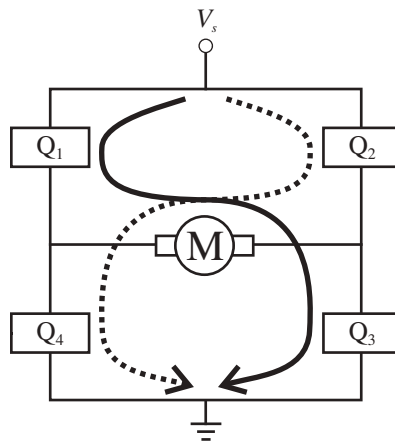
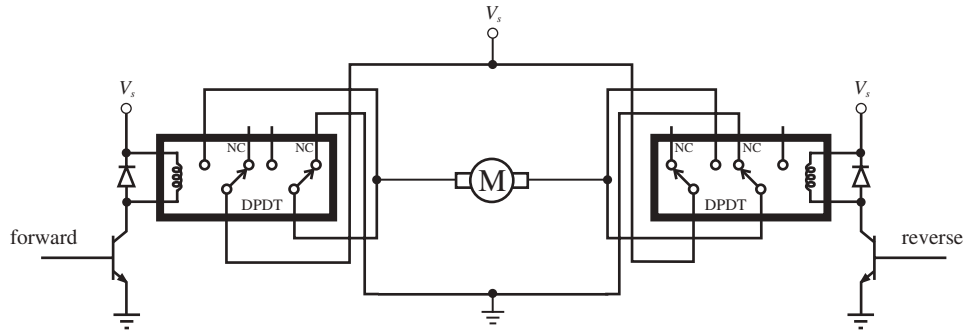

Figure 10.21 H-bridge current-direction control.
Figure 10.23 DPDT relay H-bridge.
To be able to reverse the direction of rotation of a DC motor, the applied voltage polarity across the motor and the resulting current direction must be flipped. This can be done with a circuit called an **H-bridge** illustrated in Figure 10.21. The “H” in the name comes from the configuration of the circuit, where the motor (M) is in the horizontal portion of the “H” and the four switches (Q_1 through Q_4) are in each of the four vertical legs of the “H.” Q_1 through Q_4 can be manual switches, relays, or transistors, and they must be turned on in pairs to send current through the motor in the desired direction. If switches Q_1 and Q_3 are ON and Q_2 and Q_4 are OFF, current flows through the motor from left to right (see the bold curved arrow in the figure), causing the motor to rotate in the forward direction. And if switches Q_2 and Q_4 are ON and Q_1 and Q_3 are OFF, current flows from right to left (see the dashed curved arrow in the figure), causing the motor to rotate in the reverse direction.
transistors, which are switched on with a low signal at the base (see Section 3.4.1). The bottom two transistors are npn transistors, which are switched on with a high signal at the base. To create the forward current in Figure 10.21, set Q_1 low (ON) and Q_3 high (ON), and set Q_2 high (OFF) and Q_4 low (OFF). And to create reverse current, set Q_1 high (OFF) and Q_3 low (OFF), and set Q_2 low (ON) and Q_4 high (ON). The four diodes create flyback protection in both directions (see Section 3.3.1 and Class Discussion Item 10.5). With a transistor H-bridge, PWM speed control (per Section 10.5.3) can be easily implemented by cycling the transistors on and off with the desired duty cycle.
Figure 10.23 shows how an H-bridge can be constructed with relays instead of transistors. Here, two double-pole, double-throw (DPDT) relays are being used. Refer to Section 9.3.1 for an introduction to switch terminology, which also applies to relays. And for more information about how relays work and why they are used, see Section 10.3. An alternative to the DPDT design in Figure 10.23 is to use four SPST relays instead, one for each switch (Q_1 through Q_4) in Figure 10.21, but the two DPDT approach is less expensive and requires less space. In Figure 10.23, the two relays are shown in their nonenergized states, with the pole contacts in the normally-closed (NC) throw positions. In this state, no voltage is applied to the motor, and it does not turn. When current is sent through the coil of a DPDT relay, both throw contacts switch over from the NC positions to the normally-open (NO) positions. When the relay on the left is energized (and the one on the right is not), voltage is applied to the left side of the motor and the right side of the motor is grounded, so current flows from left to the right and the motor turns forward. When the relay on the right is energized (and the one of the left is not), voltage is applied to the right side of the motor and the left side of the motor is grounded, so current flows from right to the left and the motor turns in the reverse direction. The signals “forward” and “reverse” are used to control the motor. The transistors are used to provide ample current through the relay coil to switch the relay. With small relays that don’t require much tripping current, digital signals (e.g., microcontroller outputs) might provide enough current to switch the relay (without the transistor assist). If not, the transistors will boost the current to the required level. The diodes across the relay coils are used